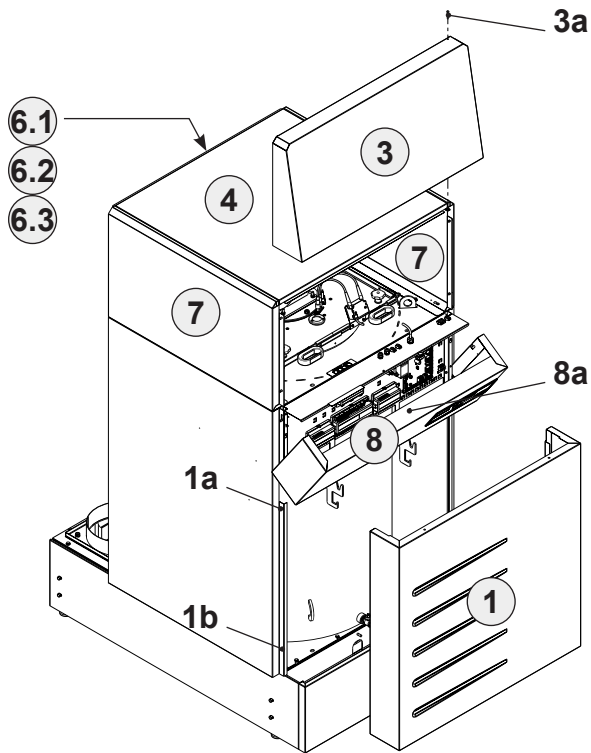

Fig. 23
3. Removing the upper front (3):
- Remove securing screw (3a, Fig. 23).